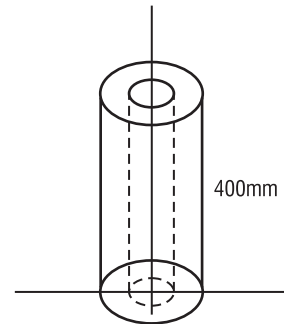

Figure 4.58
9. Calculate the co-ordinates of the centre of gravity of the solid body shown in **Figure 4.58**. [0; 200]